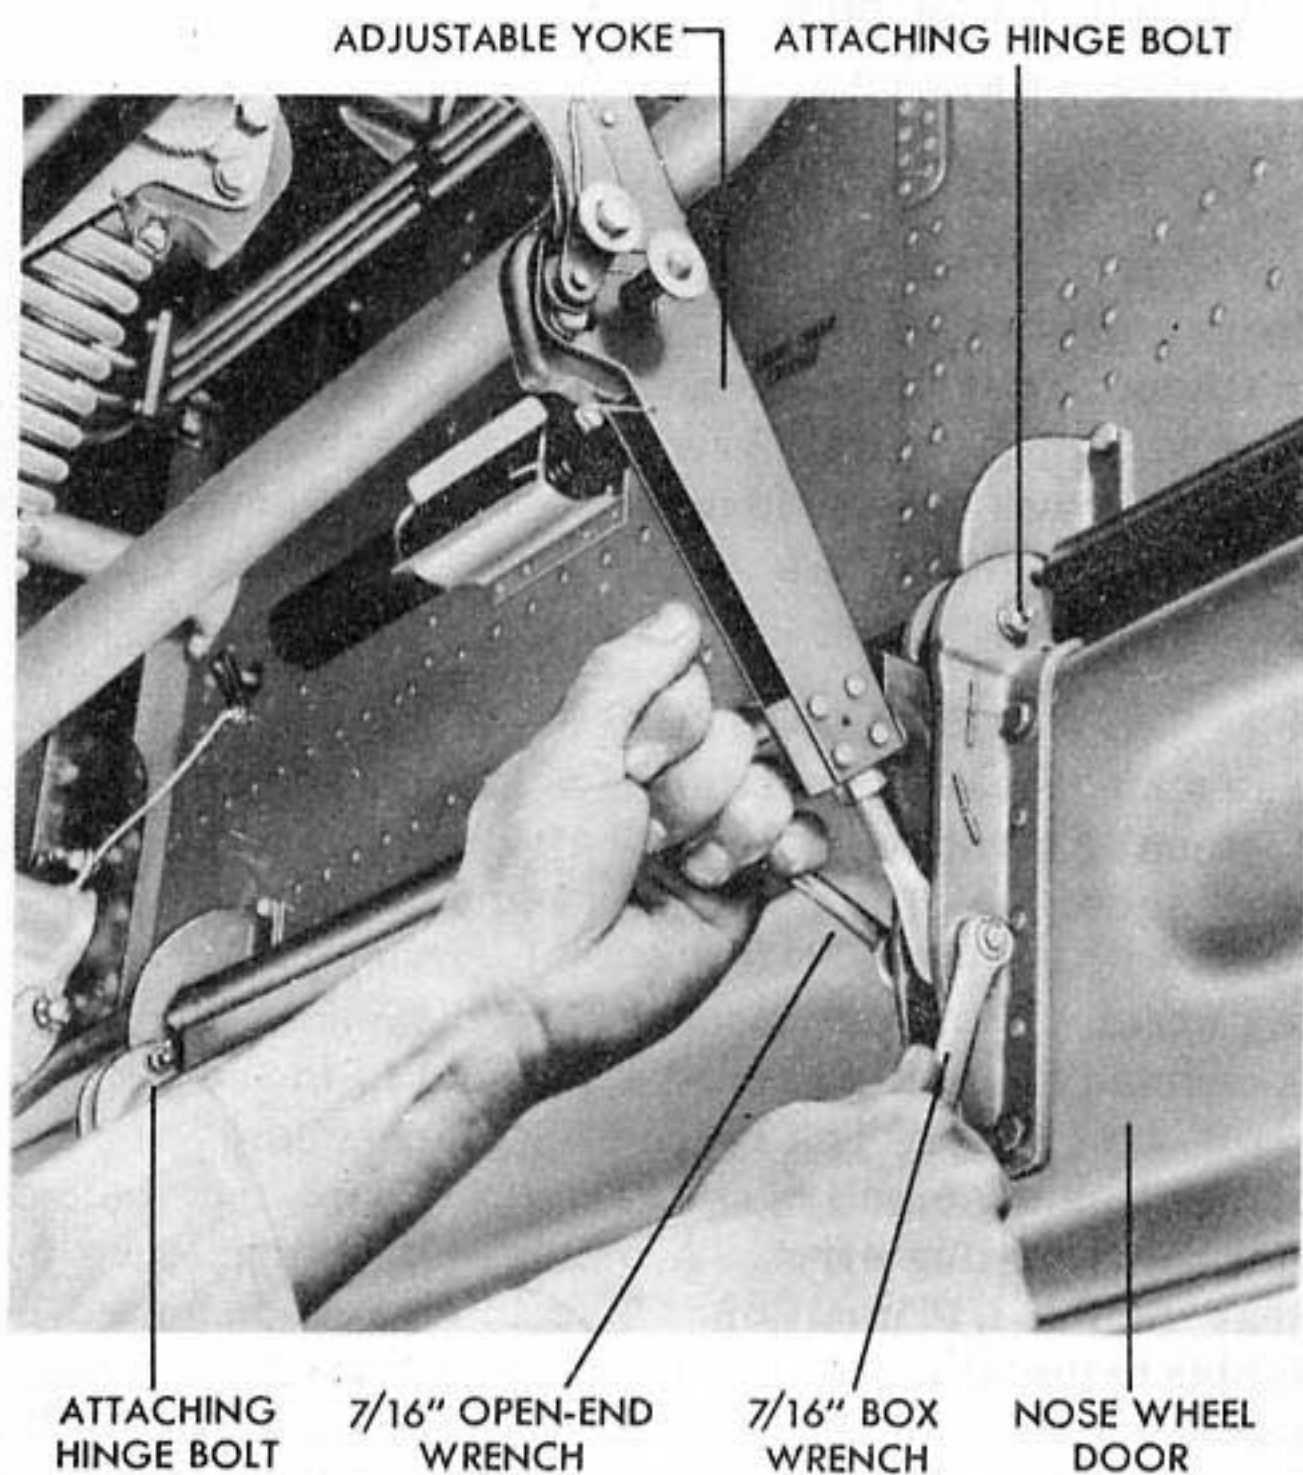

Figure 80 - REMOVING NOSE WHEEL DOOR
(1) REMOVAL OF NOSE WHEEL DOORS. (See figure 80.)